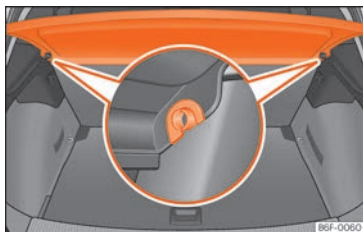

Fig. 109 In the luggage compartment: removing and fitting the shelf.
- Remove the rear shelf from the side supports » » Fig. 109 by pulling it upwards and then take it out.
- Insert the cover horizontally so that the "recess" fits onto the axis of the supports » » Fig. 109 and press down until it engages.